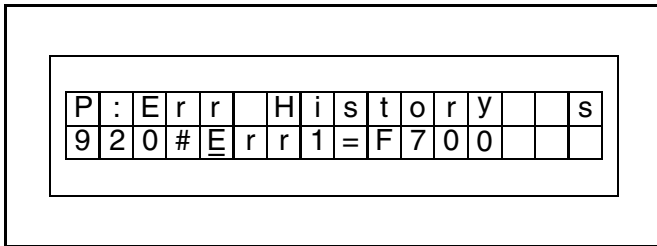

Figure 32
- After entering the error log, the first recorded error (Err1) will be displayed (F.700, for example). (See Figure 32.)